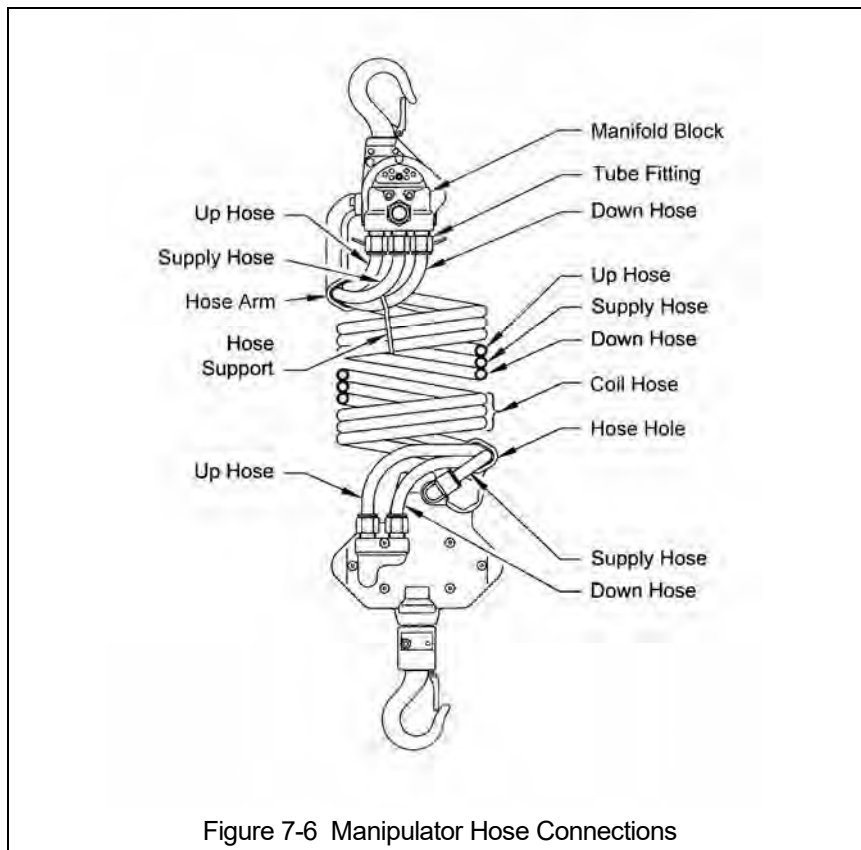

Figure 7-6 Manipulator Hose Connections
- 7.3.3 The following procedure covers the installation of the Coil Hose (Parts List Figure Number 202) onto the Manifold Block and Manipulator Control. Refer to Figure 7-6.
- 3) Firmly press the 3 Pendant Hoses completely into the Hose Fittings on the Manifold Block until they bottom out. Refer to Figure 7-6 for the correct placement of the Hoses.
- 5) Firmly press the 3 Pendant Hoses completely into the Hose Fittings on the Manipulator Control until they bottom out. Refer to Figure 7-6 for the correct placement of the Hoses.